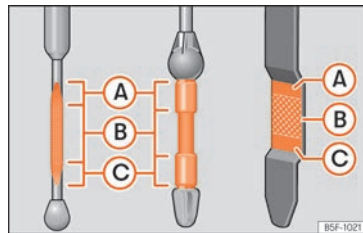

Fig. 305 Engine oil dipstick.
- Then pull it out once more and check the oil level »» Fig. 305. Top up with engine oil if necessary.
If the oil level is above area »» Fig. 305 (A), do not start the engine. This could result in damage to the engine and catalytic converter. Contact a specialised workshop.
The oil level must never be above zone »» Fig. 305 (A). Otherwise oil can be drawn in through the crankcase breather and leak into the atmosphere via the exhaust system.